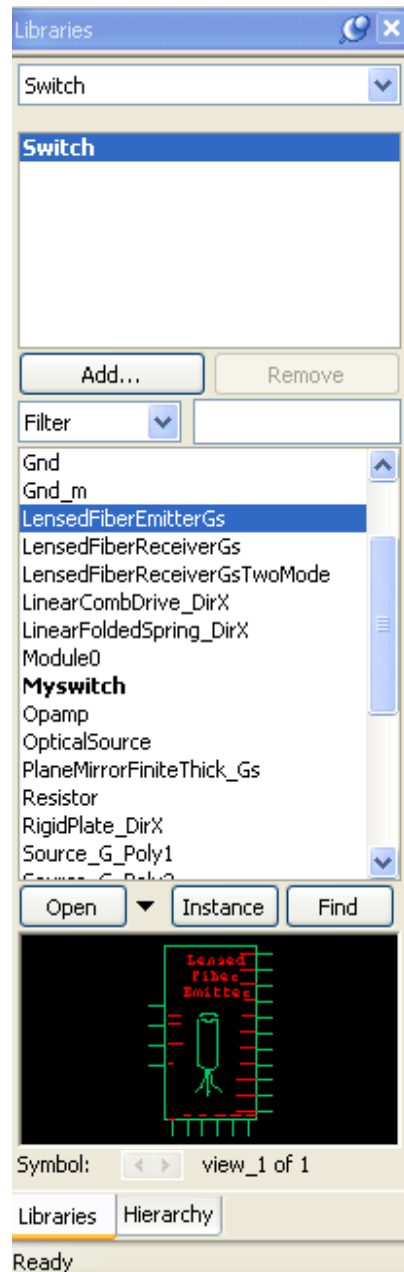

Figure 37: **Libraries** window
- ☑ From the **Libraries** dialog that exists on the left of schematic page select LensedFiberEmitterGs and click on **Instance** to place this instance in the schematic page. Do the same step so that we will have the following components from the **Libraries** dialog (Figure 37):